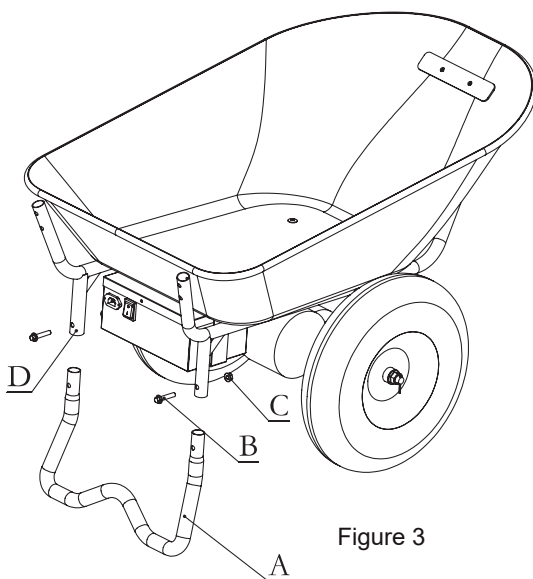

Figure 3
Fix supporting leg(A) on bucket bracket(D) with two bolts M8x40(B) and two nuts M8(C). (See Figure 3)